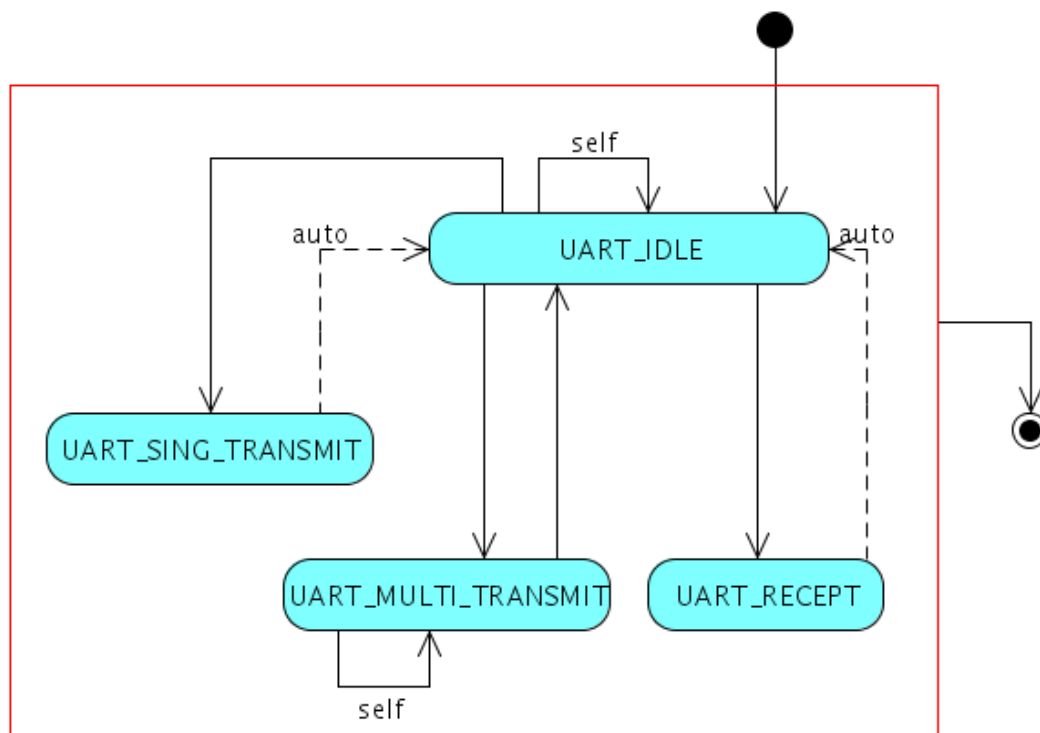

Figure 7.8: State diagram in UART mode of the RLIN3 model
- (5) UART: When the RLIN3 model moves to this state, the transmission/reception data between UART nodes in UART mode is progressed. The figure 7.8 describes the state machine of this state.